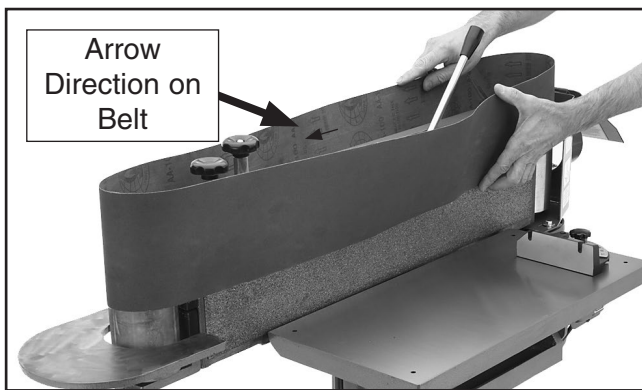

Figure 41. Installing the sanding belt.
2. Loosen the belt tracking lock knob, then move the tension lever to the release position, as shown in **Figure 41**.
4. Make sure the arrows on the inside of the new belt point in the counterclockwise direction, and place the new sanding belt over both rollers, as shown in **Figure 41**.